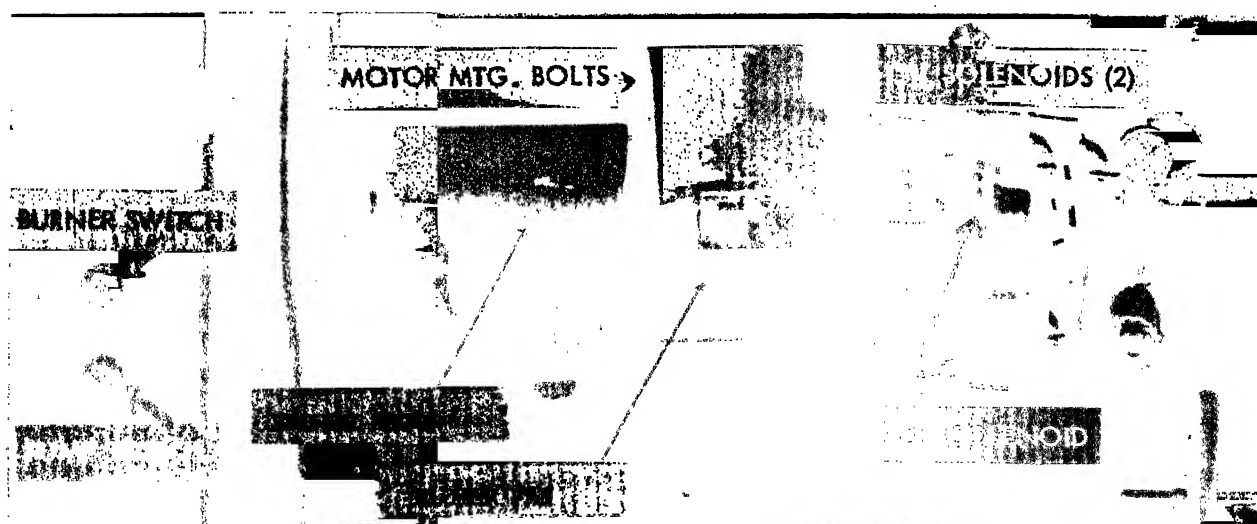

FIGURE 33 REMOVAL AND SERVICE, SOLENOIDS AND SWITCHES
7. Following positioning of the butterfly valve and adjustment of the burner electrodes, perform steps one (1) through four (4) above.
- a. Removal. Refer to Fig. 33 and remove the burner switch, and circulating pump switch.
- a. Removal. Refer to Fig. 33 and remove the burner oil solenoids.
- c. Installation. Refer to Fig. 33 and install the burner oil solenoids
- 2. Refer to Fig. 33 and remove the blower motor and blower fan.
1. Refer to Fig. 33 and install the blower motor and blower fan.